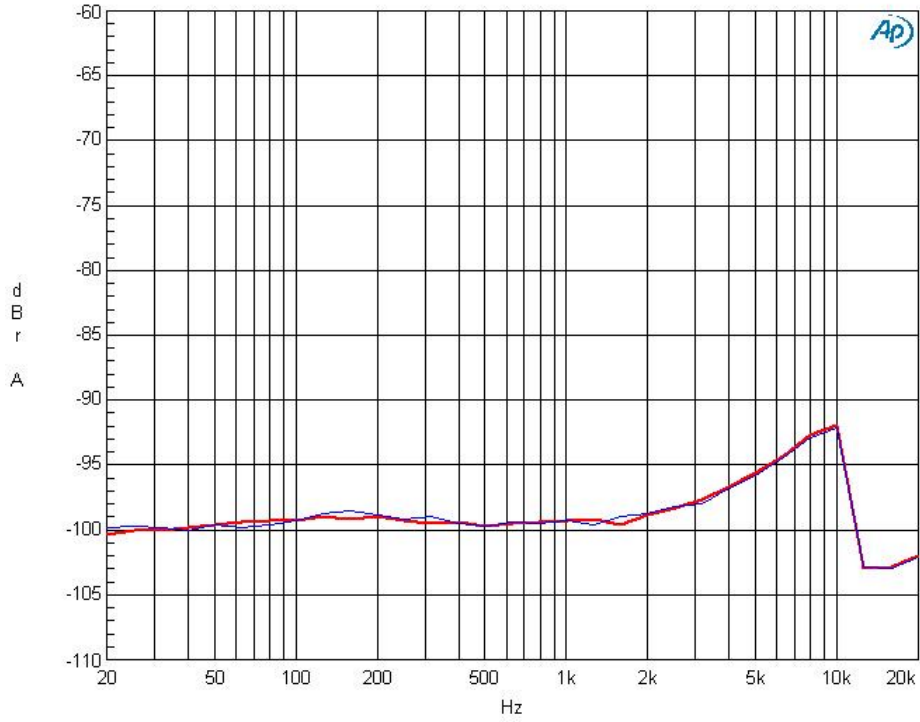

Figure1-5. THD+N vs. Input Frequency (Input level=0dB)
- Figure 1-5. THD+N vs. fin (Input Level=0dBFS)